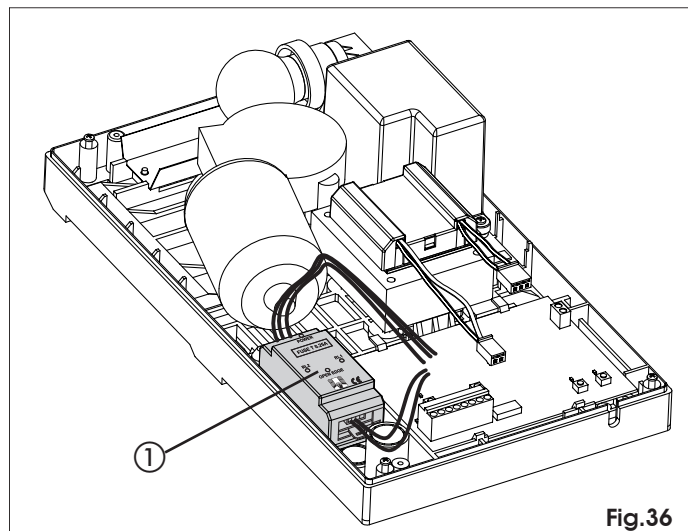

Fig.36
The use of the safety edge with conductive element, is facilitated because the control unit (Fig. 36 ref. ①) can be housed on board the operator.
- House the control unit as shown in Fig. 36.